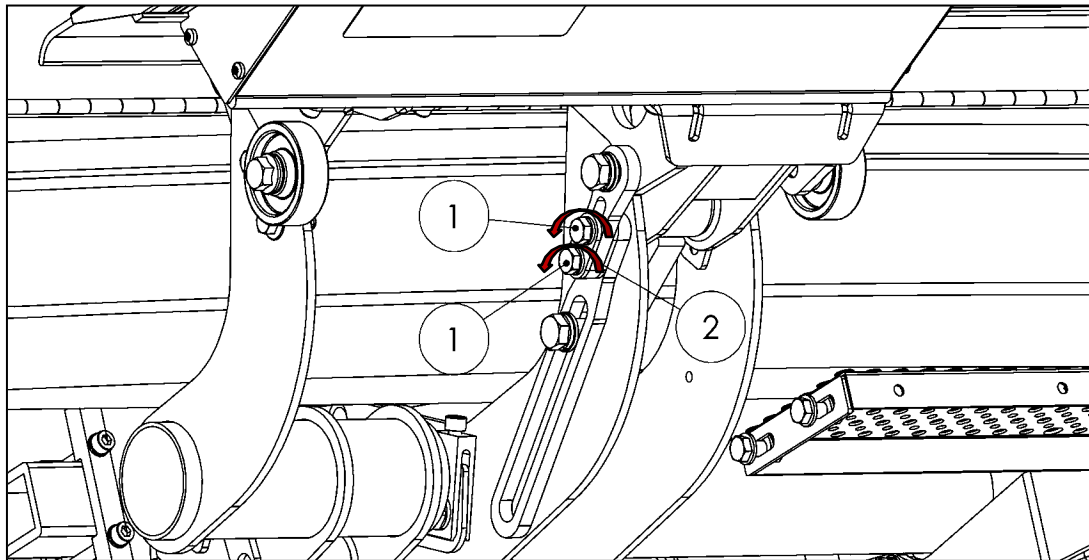

Figure 81
- Loosen the 2 screws (1) on the clamping plate (2) (see Fig. 81).